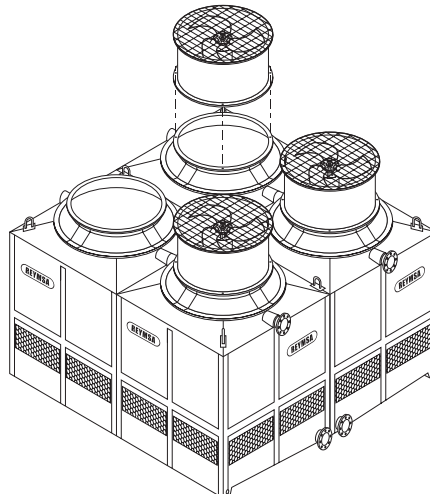

Figure A-41: Fan duct installation in a fan adaptor for a quadruple fan tower
D. If there is more than one fan, follow the same instructions from previous step to install remaining fan ducts (see an example in Figure A-41). Each fan duct is labeled with a number on the inside of the lower edge; for a correct installation, this number must match the number on the corresponding fan adaptor.